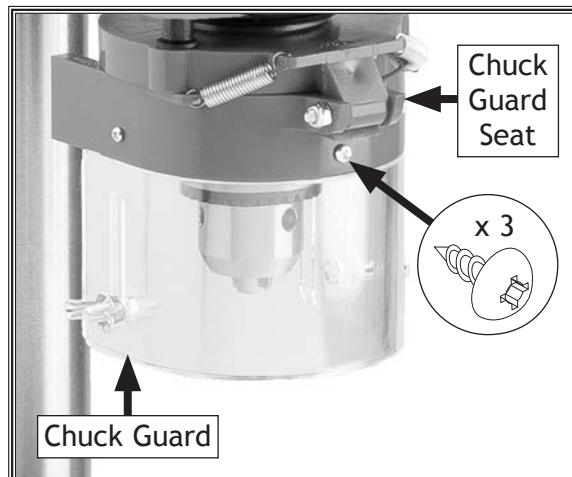

Figure 17. Chuck guard attached to chuck guard seat.
13. Attach chuck guard to chuck guard seat with (3) M2.2 x 4.5 tap screws (see Figure 17).